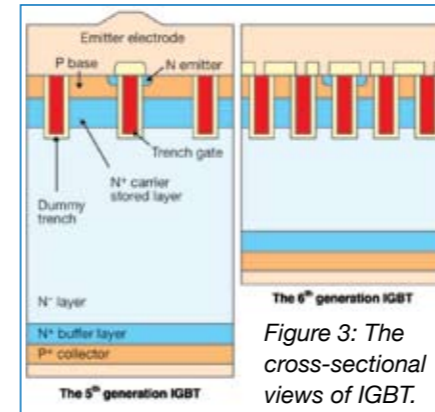

Figure 3: The cross-sectional views of IGBT.
Figure 3 compares the cross-sectional views of the 6th generation IGBT with the conventional 5th generation IGBT. Both types share a common concept of CSTBT™ technology using the carrier stored (CS) effect. As a first step in the 6th generation IGBT development, the wafer structure was modified from a NPT (Non Punch Through) type to a LPT (Light Punch Through) type by the development of a thin wafer process technology. Secondly, the unit cell